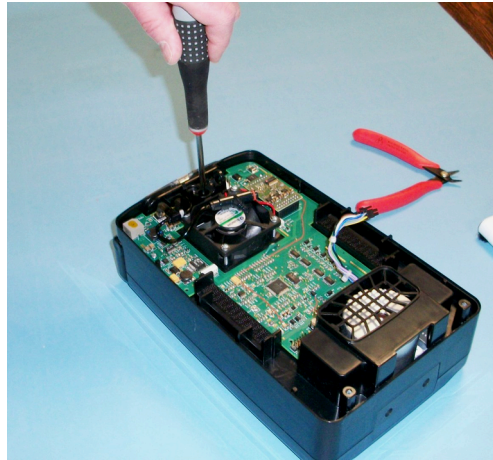

Figure 5.10
8. Remove the 8-32 x 1/4" black Phillips screws located in the center of outlet nozzle cradle. (See Figure 5.10)